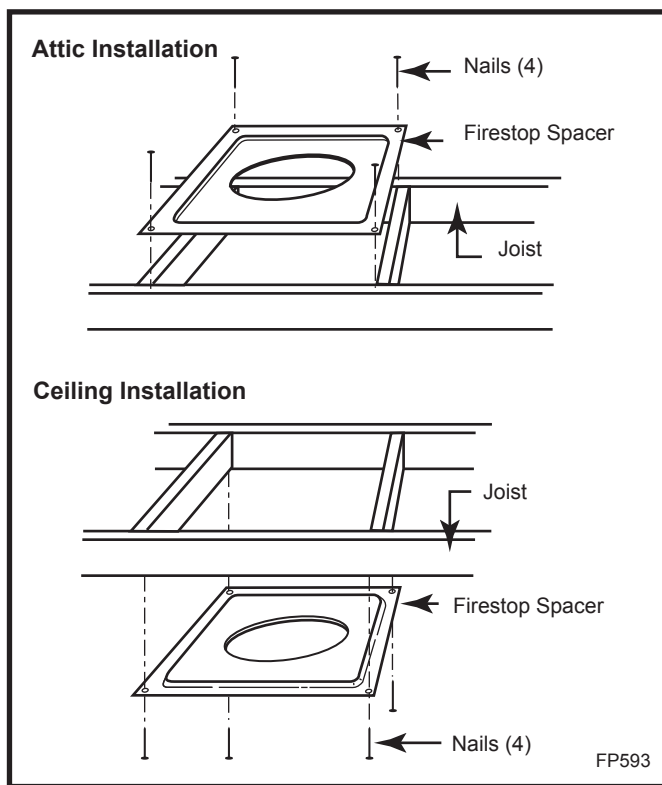

Fig. 36 Installing firestop spacer.
6. Place firestop(s) SKFS2A or Attic Insulation Shield AIS-SK into position and secure. (Figs. 36, 37)
7. Install roof support (Fig. 36) and roof flashing making sure upper flange of flashing is below the shingles.